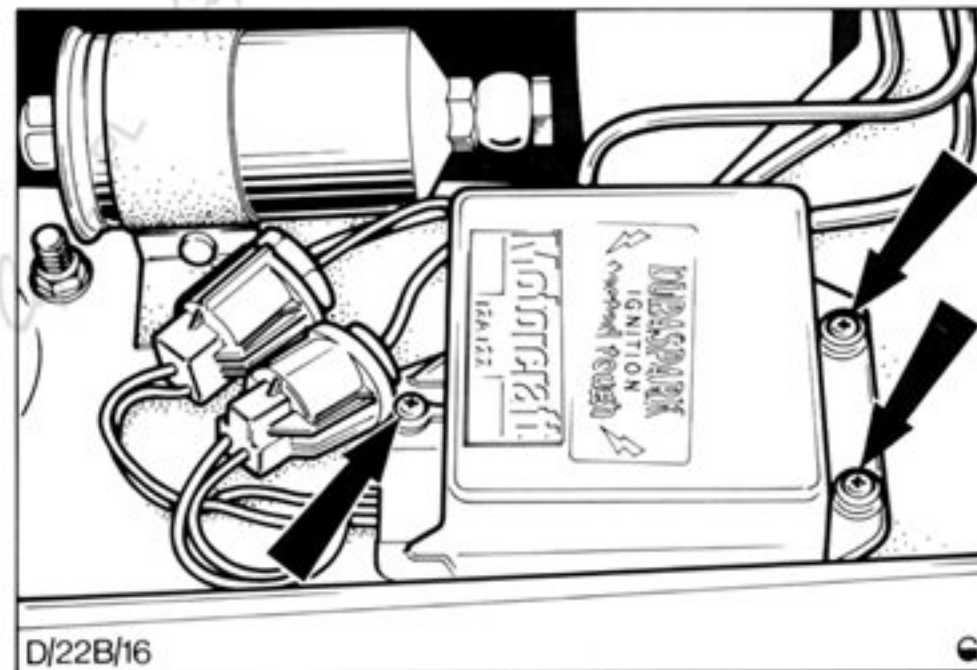

Fig.49. Ignition module securing screws.
4. Remove three screws and detach module from left hand inner fender panel. Refer Fig.49.